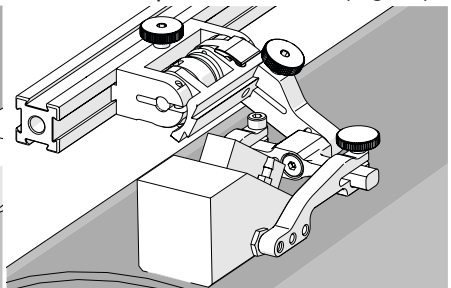

Fig. 79 - Spring loaded scan position
4. Gently lower probe holder and wedge to the scanning surface (Fig. 79).